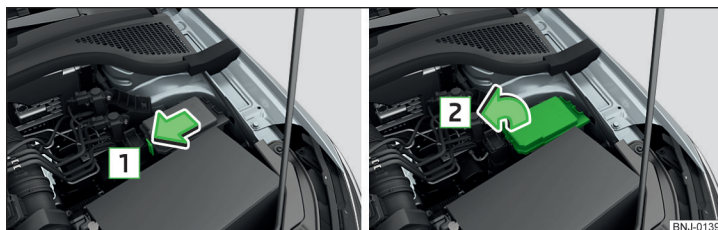

Fig. 180 Remove the cover
- Press the lock button on the cover in direction of arrow 1 » Fig. 180.